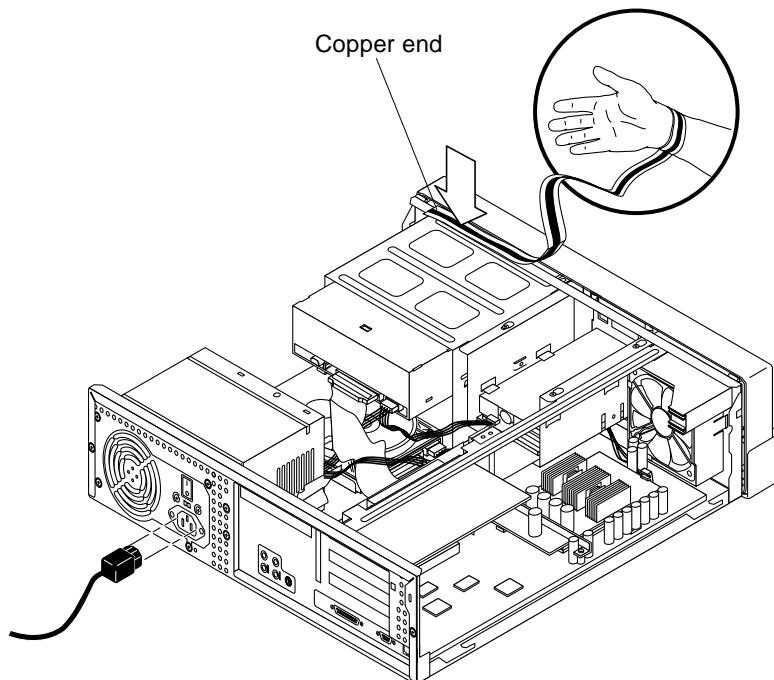

FIGURE 5 Attaching the Wrist Strap to the Chassis (Ultra 5)
- c. Attach the copper end of the wrist strap to the chassis (FIGURE 5).